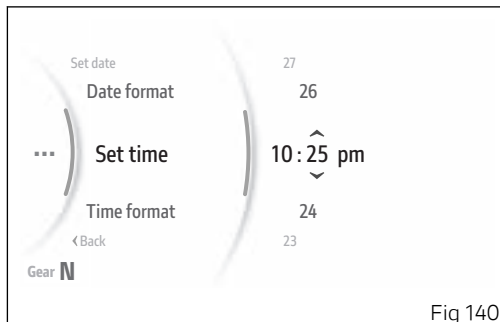

Fig 140
The arrows and available values appear for the number of minutes (Fig 140). Use buttons (1) and (2) to scroll and select the desired value. Press ENTER (3) to confirm and move on to the AM/PM selection.